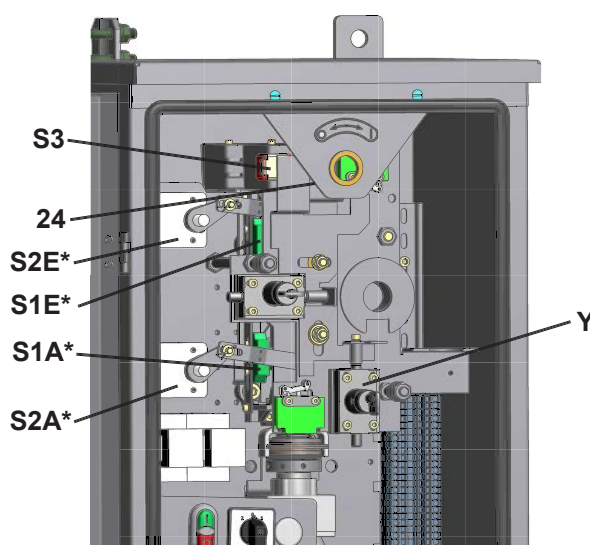

Fig. 2
#### S3 emergency hand crank switch (Fig. 2, 3, 4 and 8)
#### S2A and S2E auxiliary switches (Fig. 2)
#### Emergency hand crank pressing-off fixture (Fig. 2, 3, 4 and 8)
#### Key interlocking system (Y) (Fig. 2)